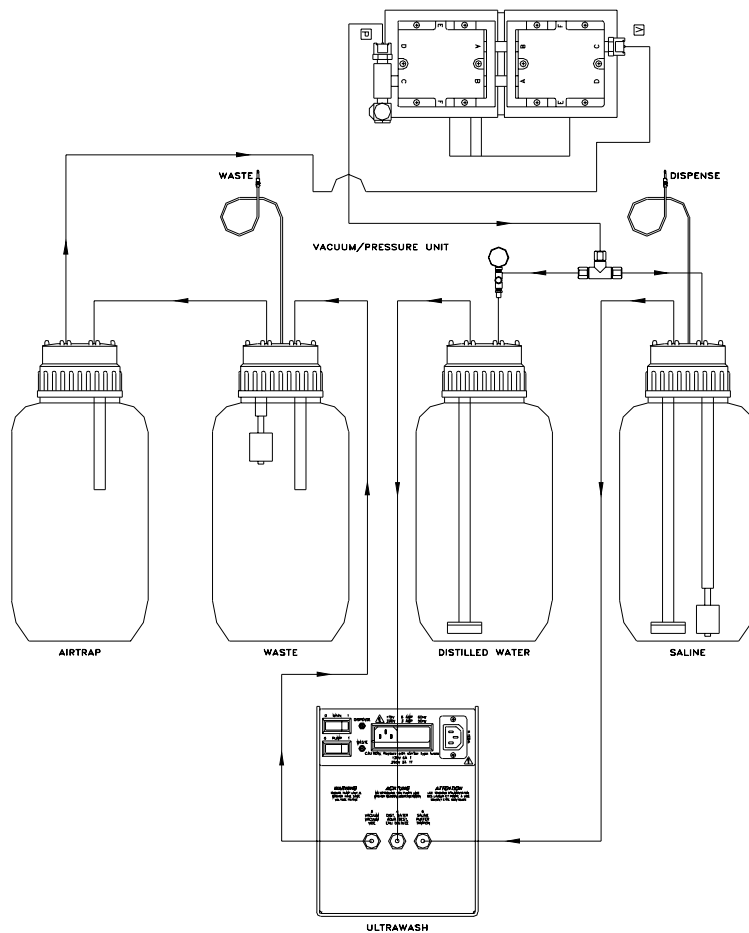

Figure 4: Tubing connections
4. Connect all tubing as shown in Figure 4.